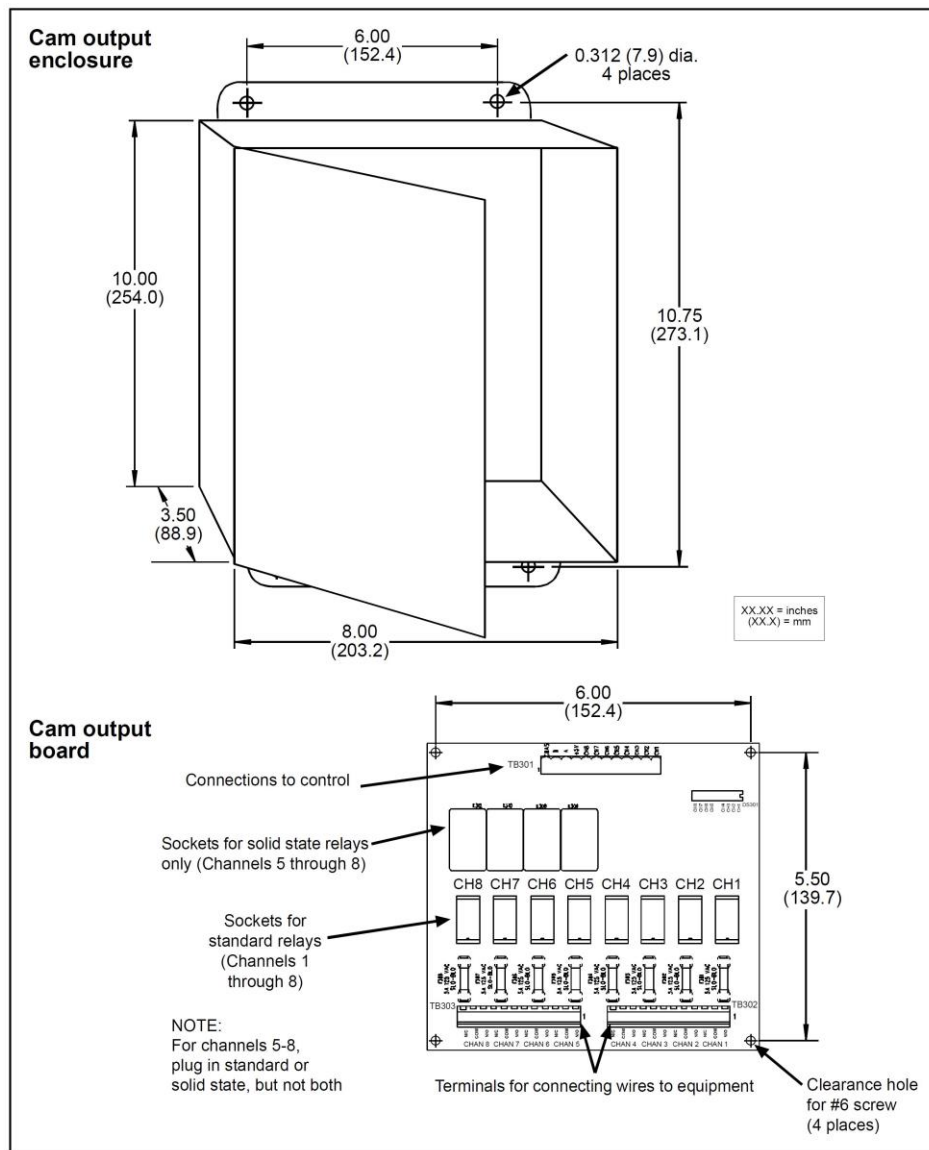

Figure 2-14. ProCamPAC Output Assembly
2. Mount the output enclosure, using the mounting holes on the flanges as shown in Figure 2-14, page 50.
Do not mix standard and solid state relays in channel locations 5-8. For example, if you plug a solid state relay into channel 5 (location K306), you cannot plug a standard relay into location K305. See Figure 2-14.